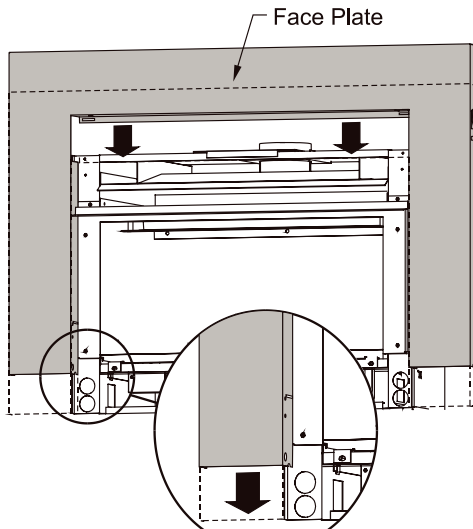

Figure 6a. Installing the Hotshot one-piece face plate.
- Slide the face plate down from the top of the fireplace. Ensure that the face plate is inside of fireplace side rail as shown in **figure 6a**.